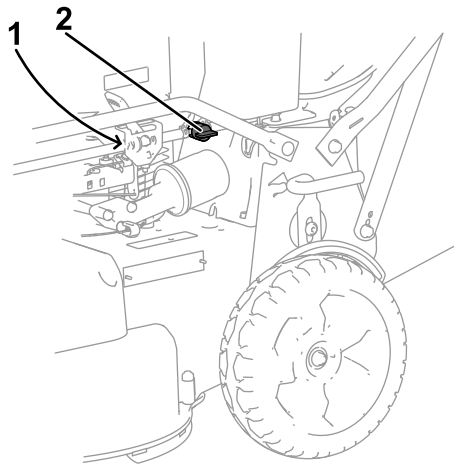

Figure 31
3. Close the fuel-shutoff valve (Figure 31).
4. Remove the fuel filter (Figure 31) from the fuel line by loosening the tube clamps surrounding the fuel filter.